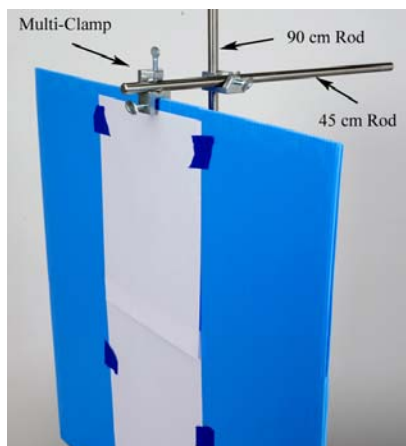

Figure 3: Supporting the "wall"
3. Use the largest blue sail from the ME-9595 Car Sail for your "wall". It is held upright using the Rod Stand and 90 cm Rod. The 45 cm Rod and Multi-Clamp hold the top of the material in position, as shown in Figure 3.
4. Tape two pieces of paper to the "wall" as shown in Figure 3.